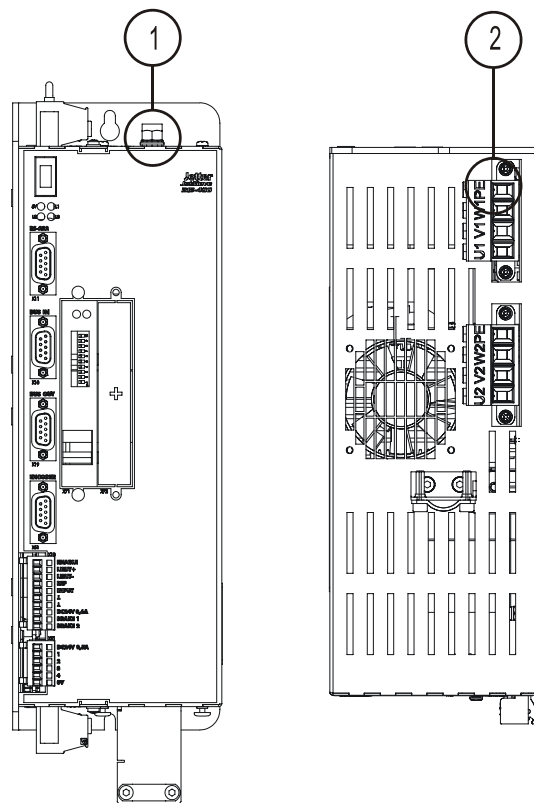

Fig. 1: Double Earthing
- The protective earth bus must be connected to the PE (GND) bolt (1) located at the top side of the rack as well as to the PE (GND) terminal X1 (2) (please refer to Fig. 1).
- Connect the earth to the cover. For this please refer to Fig. 1 on page 13.